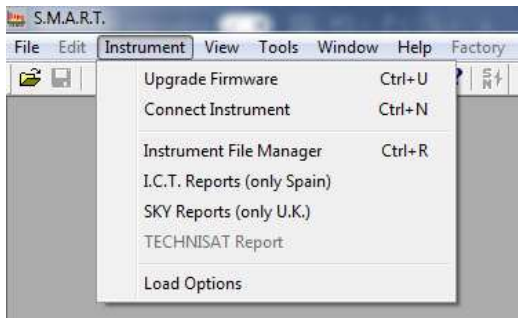

Fig.10 SMART: Instrument menu
- e) On the bottom left side of the screen, the selected User Band will be displayed during your measuring activities (ref. fig 10).
Fig. 10 when measuring in SCR mode, the user band shows on the bottom left side of the screen
- iv. Select “Connect Instrument” in the SMART Instrument menu (ref. fig.10),
- i. Select “Instrument File Manager” in the SMART Instrument menu (ref. Fig. 10),